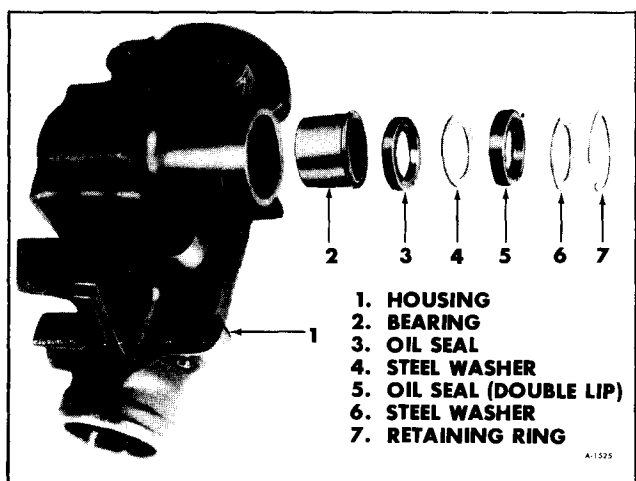

Figure 45—Pitman Shaft Bearing and Seals
1. Thoroughly clean all parts (figure 45) and lubricate with Power Steering Fluid.